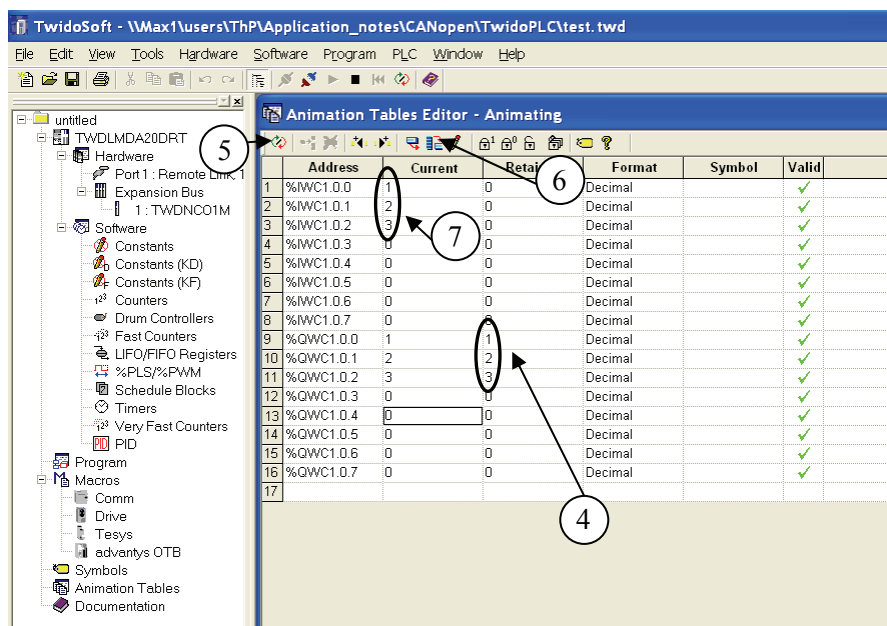

Figure 30 Monitoring the input and output data.
- The Output Data from the fieldbus can be seen at byte 200 to 203 ❶ in the Out Area. The value is corresponding to the value written in Figure 30 Monitoring the input and output data.
- Data to the fieldbus can be seen at byte 0 to 2 in the In Area ❷. The value is corresponding to the value read in Figure 30 Monitoring the input and output data.
The window above shows the Output data from the PLC. The data value is corresponding to the data value written in Figure 30 Monitoring the input and output data.